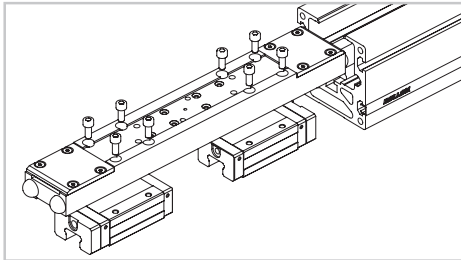

Fig. 16
- 18) Slide out completely the carriage to have access to both sliding blocks (Fig. 16). Remove the block to be replaced.